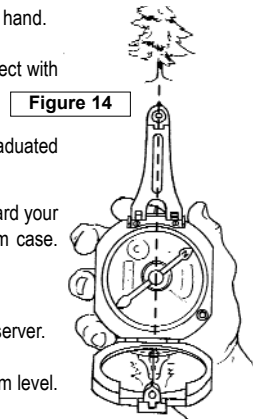

Figure 14
6. Look into the mirror, and bisect the large sight and the object with mirror center line. (Fig 14)